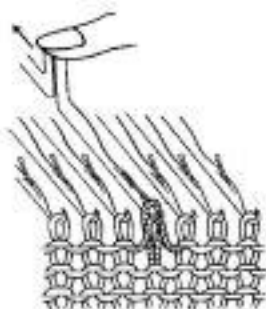
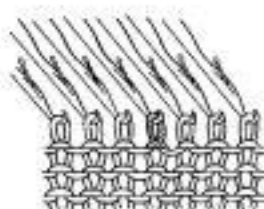

Fig. 52-4
Fig. 52-5
4. Push the needle back until the loop passes over the closed latch as shown in Fig. 52-4, and reforms the stitch. (Fig. 52-5)